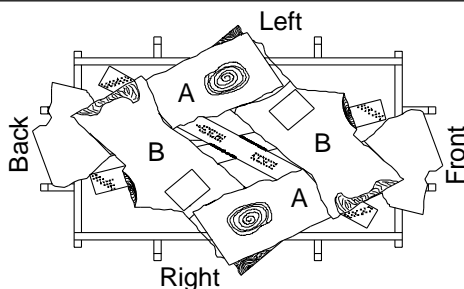

Figure 45 - Installing Logs "B" (Top View)
9. Place logs "B" as shown in Figure 45. Lift the end of log "A" that will be propped up and place log "B" under it. At the same time, the other side of log "B" is placed over the other log "A". Repeat procedure for the other log "B".